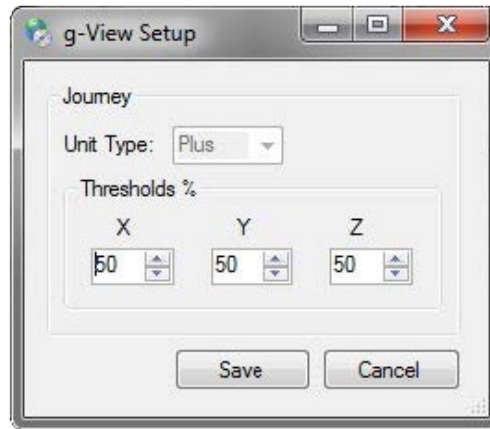

Figure 3
2. The Setup dialog will now be displayed (Figure 3).